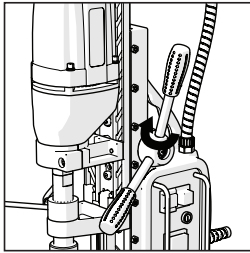

FIG. 1
- Attach the three handles into the spindle hub ensuring that they are fully seated. **(Fig. 1)**